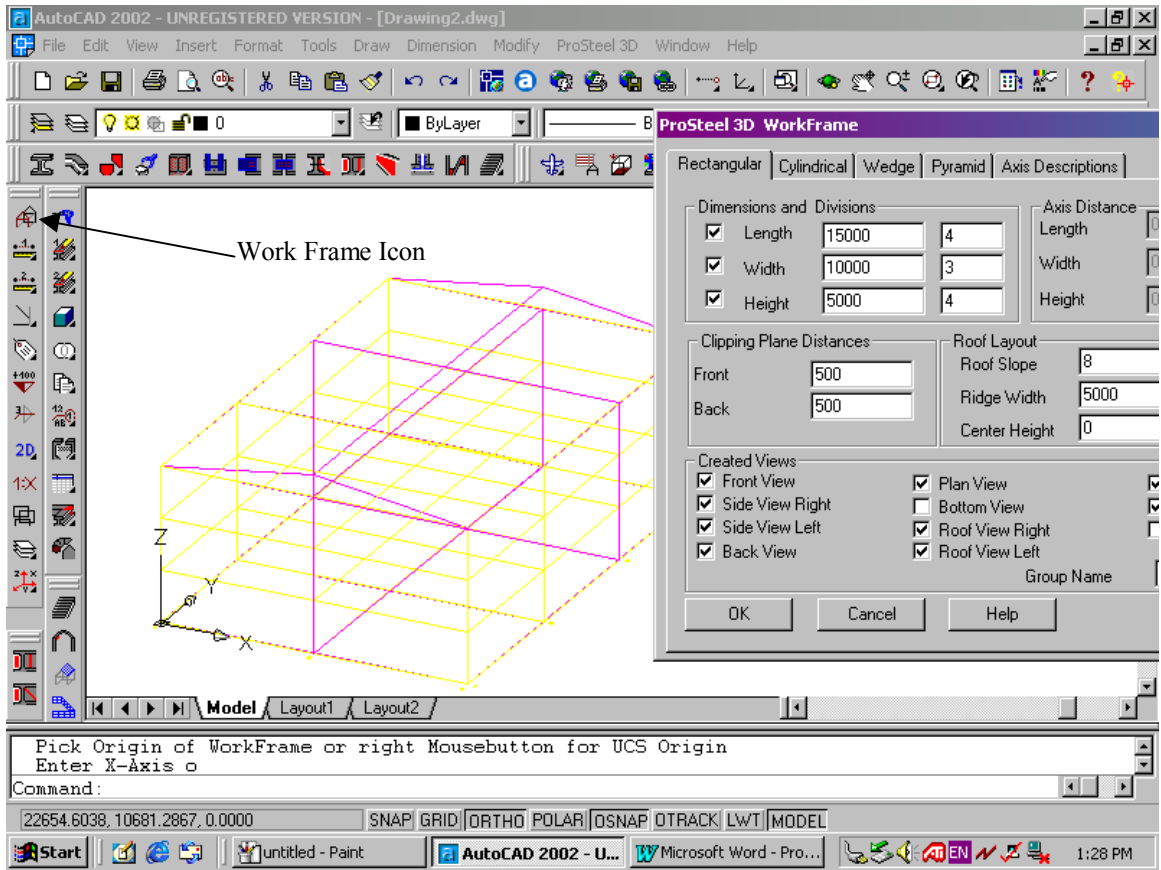
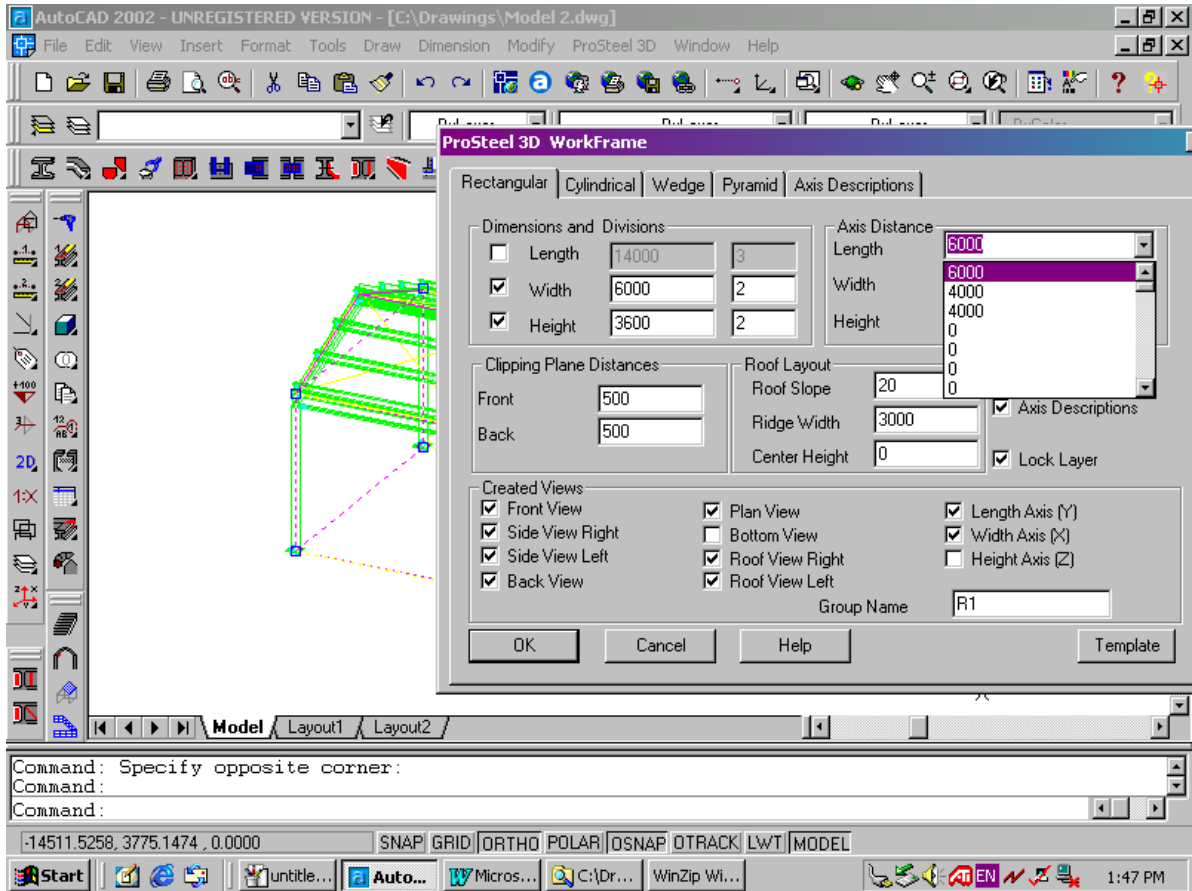

Fig 3
Fig 4
2. Work frames are created by selecting the work frame icon which is the top left icon on the vertical tool bar Fig 3. It will then ask you to select the work frame origin and direction of the X axis. This layout is up to you as to how you want it in your drawing or screen layout. A dialog box will appear as below and this will have options available as per the TABs ie. Rectangular, Cylindrical etc. If you move the Dialog box you will see the selected work frame in the ACAD window.
3. We will only look at the Rectangular and axis description TABs in this lesson. The other TABs are very similar and once one is understood then the others should be obvious. This Rectangular dialog box gives us 4 @ 5000 grids in the Y direction and 3 @ 5000 in the X direction and 4 @ 1666 in the height Fig 3. Note that this is a set grid pattern, however if you untick the length, width or height buttons you will notice that the axis distance buttons will change to white from being greyed out and this will enable you to have variable grid spacing Fig 4.
4. The above grid (Fig 4) set out is the way we will set up today's lesson. Note the ticked created views and the length, width & height ticked boxes. These are the views that will be created as mentioned in item 1. Note that when the 3D pattern box is ticked, which is obscured in the above Fig 4, a Yellow Grid is displayed as well as the Magenta View Planes.